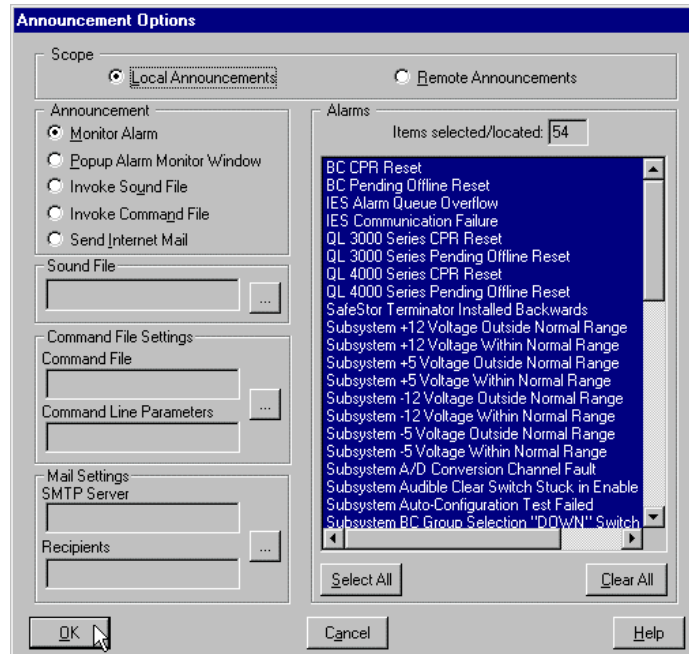

Figure 102 - Announce Options dialog box
2. The ANNOUNCE OPTIONS dialog box should appear. Do the following in the dialog box. See Figure 102.